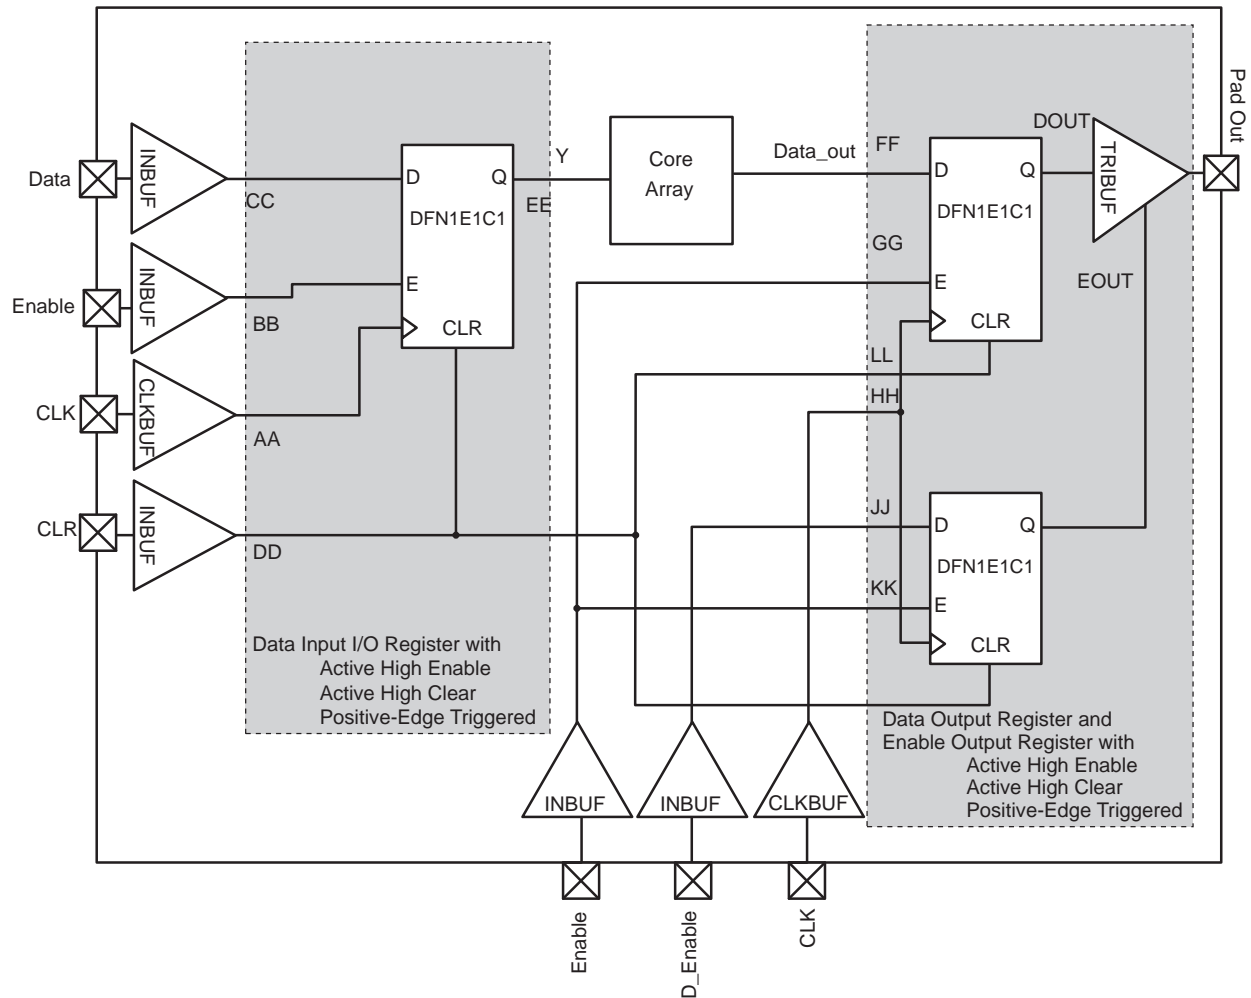

Figure 2-27 • Timing Model of the Registered I/O Buffers with Synchronous Enable and Asynchronous Clear
* See Figure 2-27 on page 2-101 for more information.